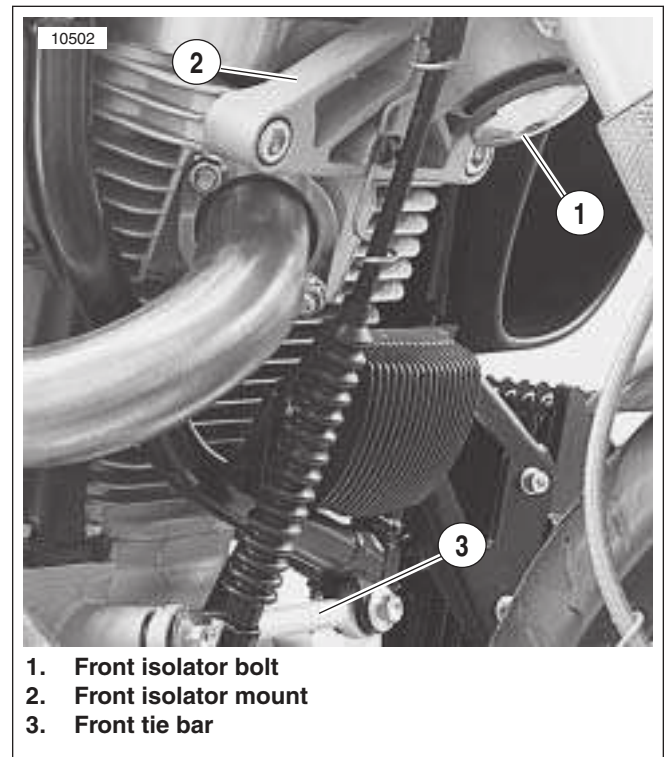

Figure 3-7. Front Isolator and Tie Bar Assemblies
24. See Figure 3-7. Remove front isolator bolt (1).
25. Remove front isolator mount (2) from engine.